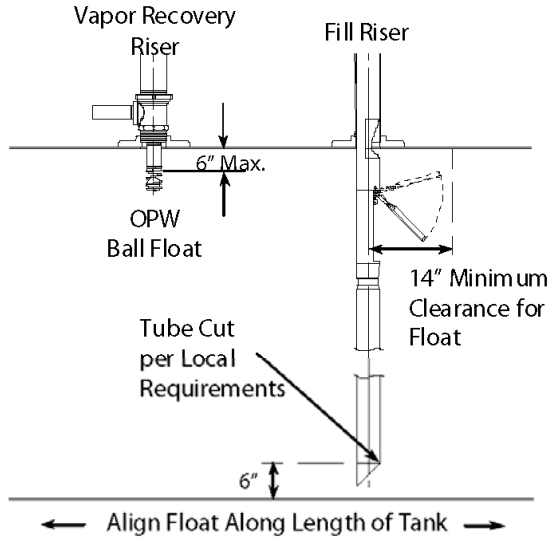

Figure 24
Measuring from the underside of the inlet tube flange, mark the overall length of the drop tube a distance of (B) minus 6". Determine dimension (B) from the measurements taken in Step 1, Figure 1 (Top of the Face Seal Adapter below the drain valve outlet in the spill container to the bottom of the tank). Saw off the excess tube at a 45-degree angle or per local codes or requirements and file off any sharp burrs (Refer to Figure 24). **Optional:** Install the OPW Tank Bottom Protector on the lower tube (Refer to Installation instructions supplied with the Tank Bottom Protector).
**CAUTION: No obstruction in the tank can be within 14" from the center of the riser pipe or the valve may not operate properly (See Figure 24).**